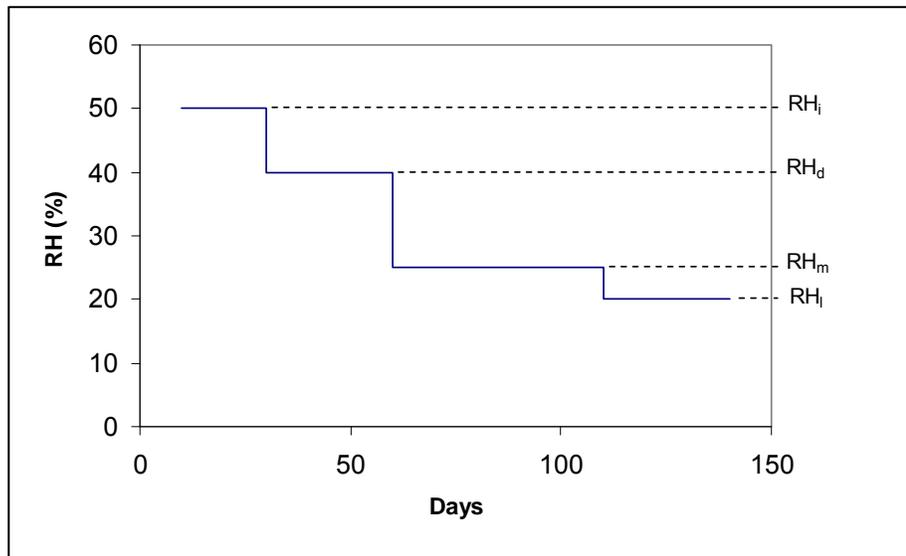

Figure 5. Example of time varying minimum daily relative humidity as specified in the Growth Stage Table.
6. Relative humidity (%) (RH) - The mean value for daily minimum relative humidity during the mid- or late season growth stage. Values are specified for each growth stage (Figure 5, Table 1). This information is used by LAWS to compute the value of KC_{max} used in the dual crop coefficient method. See **Technical Reference Section**.